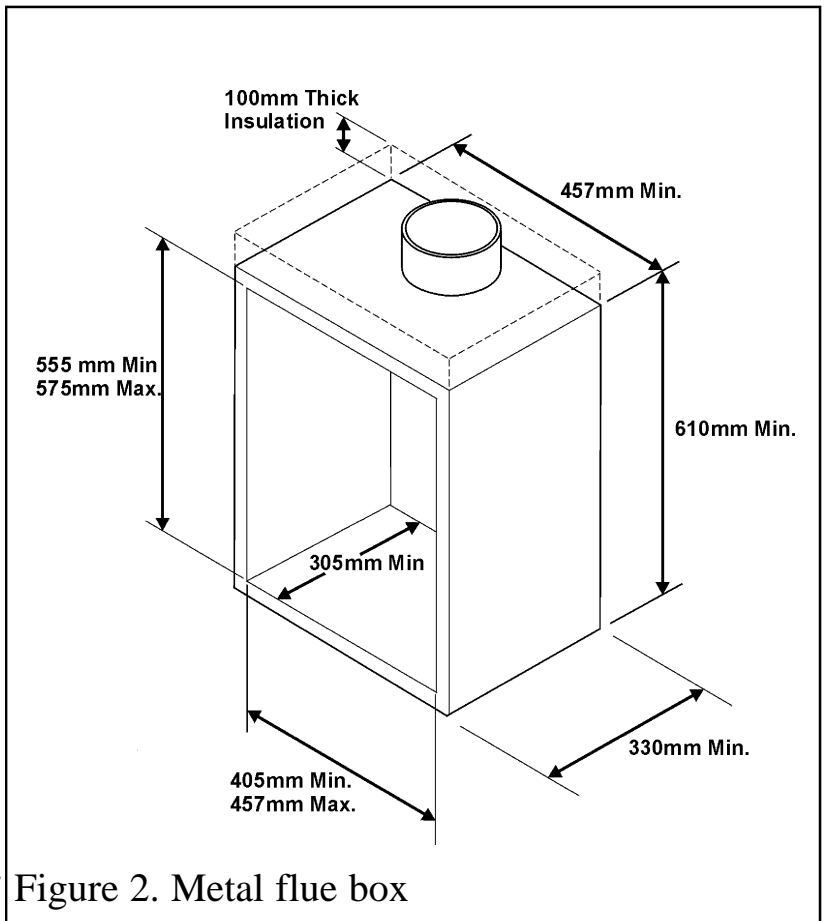

Figure 2. Metal flue box
4.2.2 To a fireplace incorporating a metal flue box complying with the constructional requirements of BS 715 and BS EN 1856 Part 1. The dimensions of the flue box must conform to those shown in figure 2.
The whole of the top surface of the metal flue box must be covered with a 100mm layer of mineral wool or equivalent insulation (See figure 2).